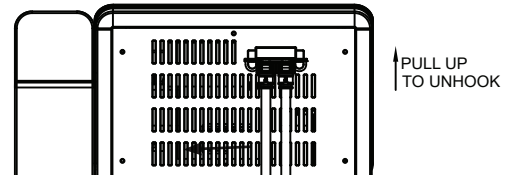

Figure 5
9. Unhook the top of the drain hoses at the back of the unit. Press the red rectangular button on the end of the hose and pull down to release from the hooks. See Figure 5.